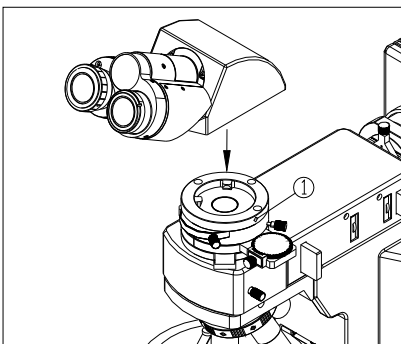

Fig.11
- (1) Loosen the head lock screw① fully. (See Fig. 11)
- (2) From a little right position, insert the coattail interface on the bottom of head into the hole of middle head with a little left inclined. Keep the two eyepiece tubes forward, and then screw down the lock screw.